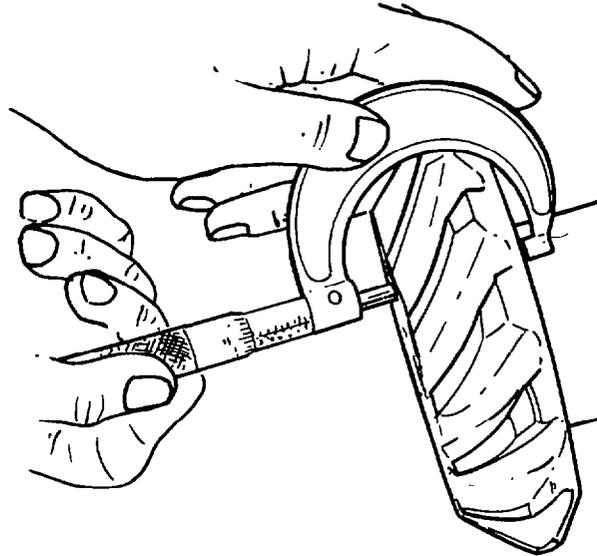

Fig. 308 — Measuring Bevel Pinion Gear
- a. Note and record the dimension etched on the back of the bevel pinion gear, also measure and record the thickness of the pinion head (see fig. 308). These dimensions will be required later to determine the ideal shim pack.